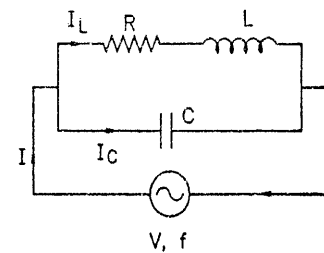
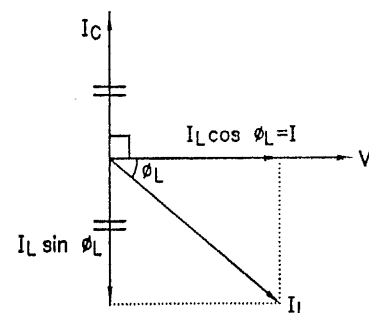

FIG. 2.69 : RESONANT CIRCUIT
FIG. 2.70 : PHASOR DIAGRAM
- Fig. 2.69 shows the circuit consisting of an inductive coil in parallel with a capacitor. The corresponding phasor diagram is shown in Fig. 2.70.